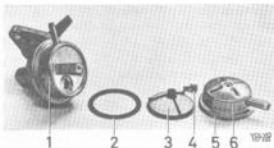

Fig. 2-142. Fuel pump, Pierburg
1. Remove the cover (6, Fig. 2-142), the filter (3) and the seal (2).
4. Fit the cover. Make sure that the profiles in the body and cover (see 1 and 5, Fig. 2-142) coincide.